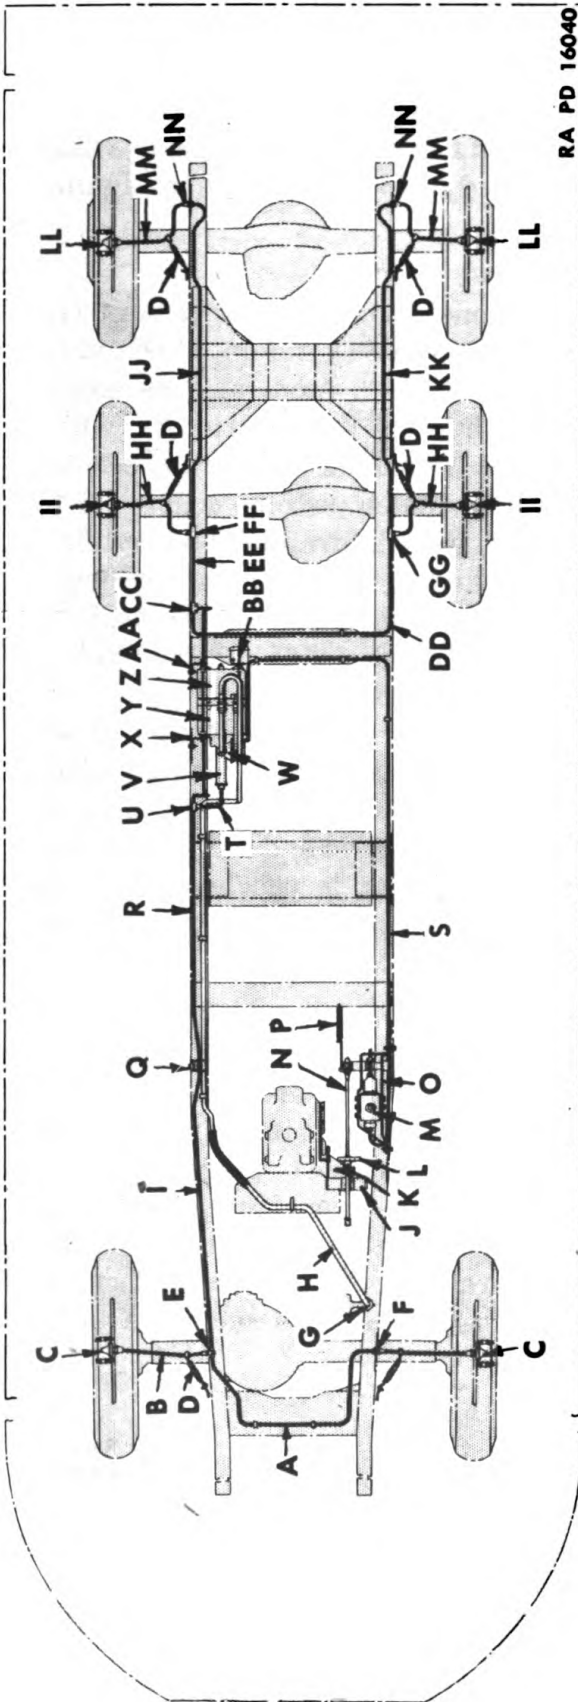

Figure 57—General Arrangement of Brake Units, Controls, Hydraulic and Brake Lines
a. Service Brake System (Fig. 57). Service or foot brake system is vacuum assisted hydraulic type and operates brake shoes at all six wheels. Units used in this system include brake pedal, pedal linkage, master cylinder, wheel cylinders, Hydrovac unit (power cylinder, relay valve and hydraulic slave cylinder), vacuum check valve, vacuum and hydraulic lines.